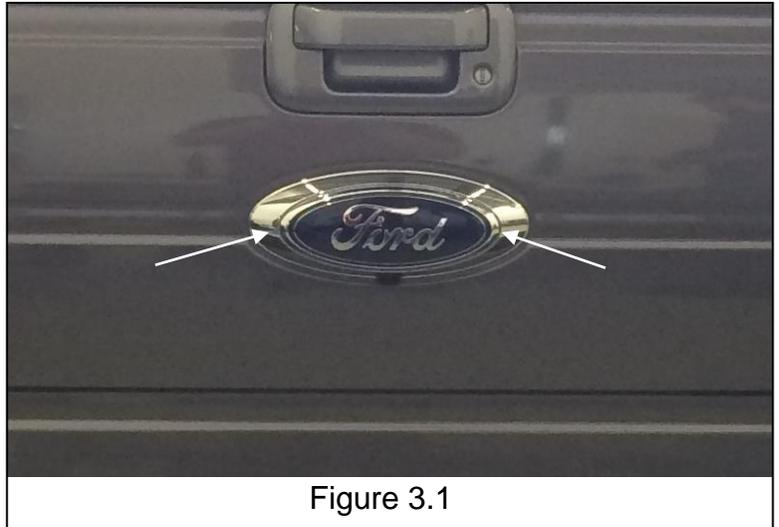

Figure 3.1
1. Gently pry against the smaller part of the emblem shown in figure 3.1. Be careful not to damage either part of the emblem